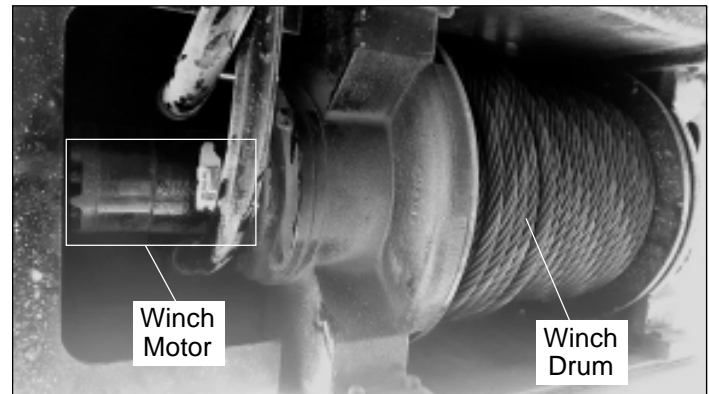

Figure 3 — Winch Motor Location
- The winch motor is located on the streetside of the chassis under the front bumper assembly (refer to Figure 3).